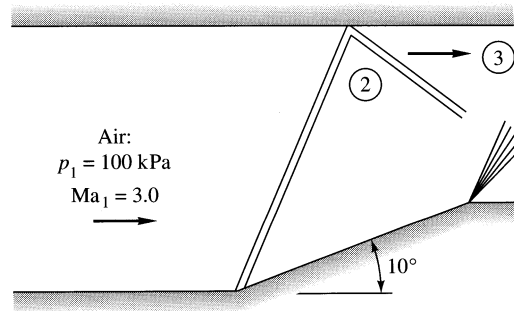

Fig. P9.135
**9.135** A bend in the bottom of a supersonic duct flow induces a shock wave which reflects from the upper wall, as in Fig. P9.135. Compute the Mach number and pressure in region 3.